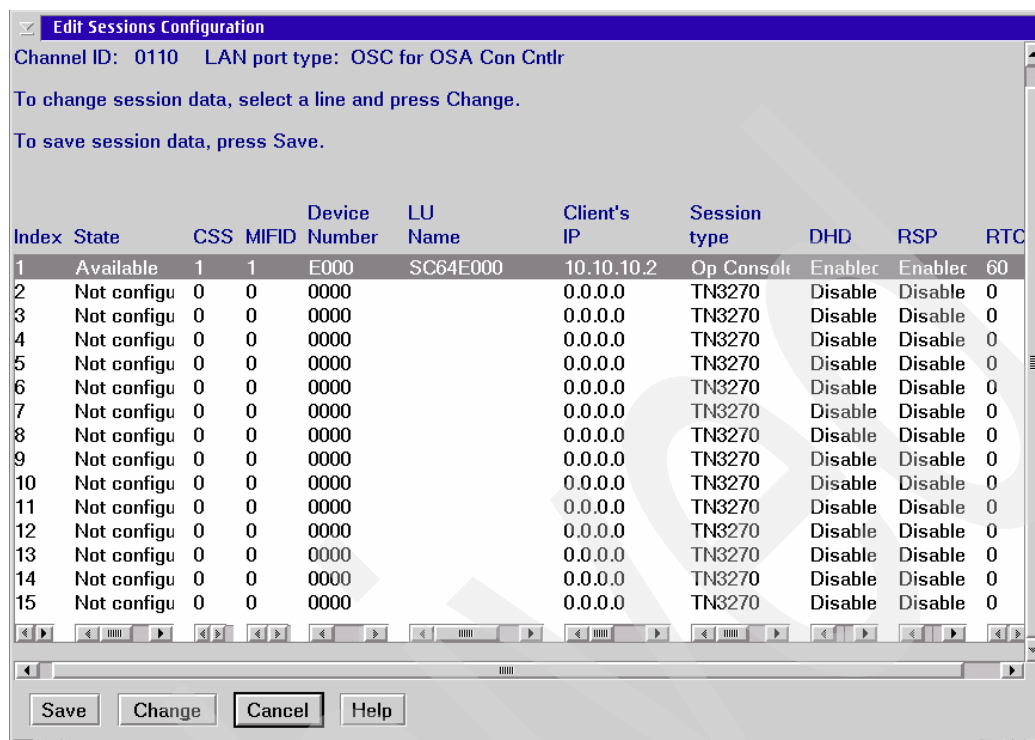

Figure 3-11 Edit sessions configuration with one session
- Complete the session options and click **OK**. The Edit Sessions Configuration panel is displayed (see Figure 3-11).
Figure 3-11 shows the first OSA-ICC session configured for PCHID 110.